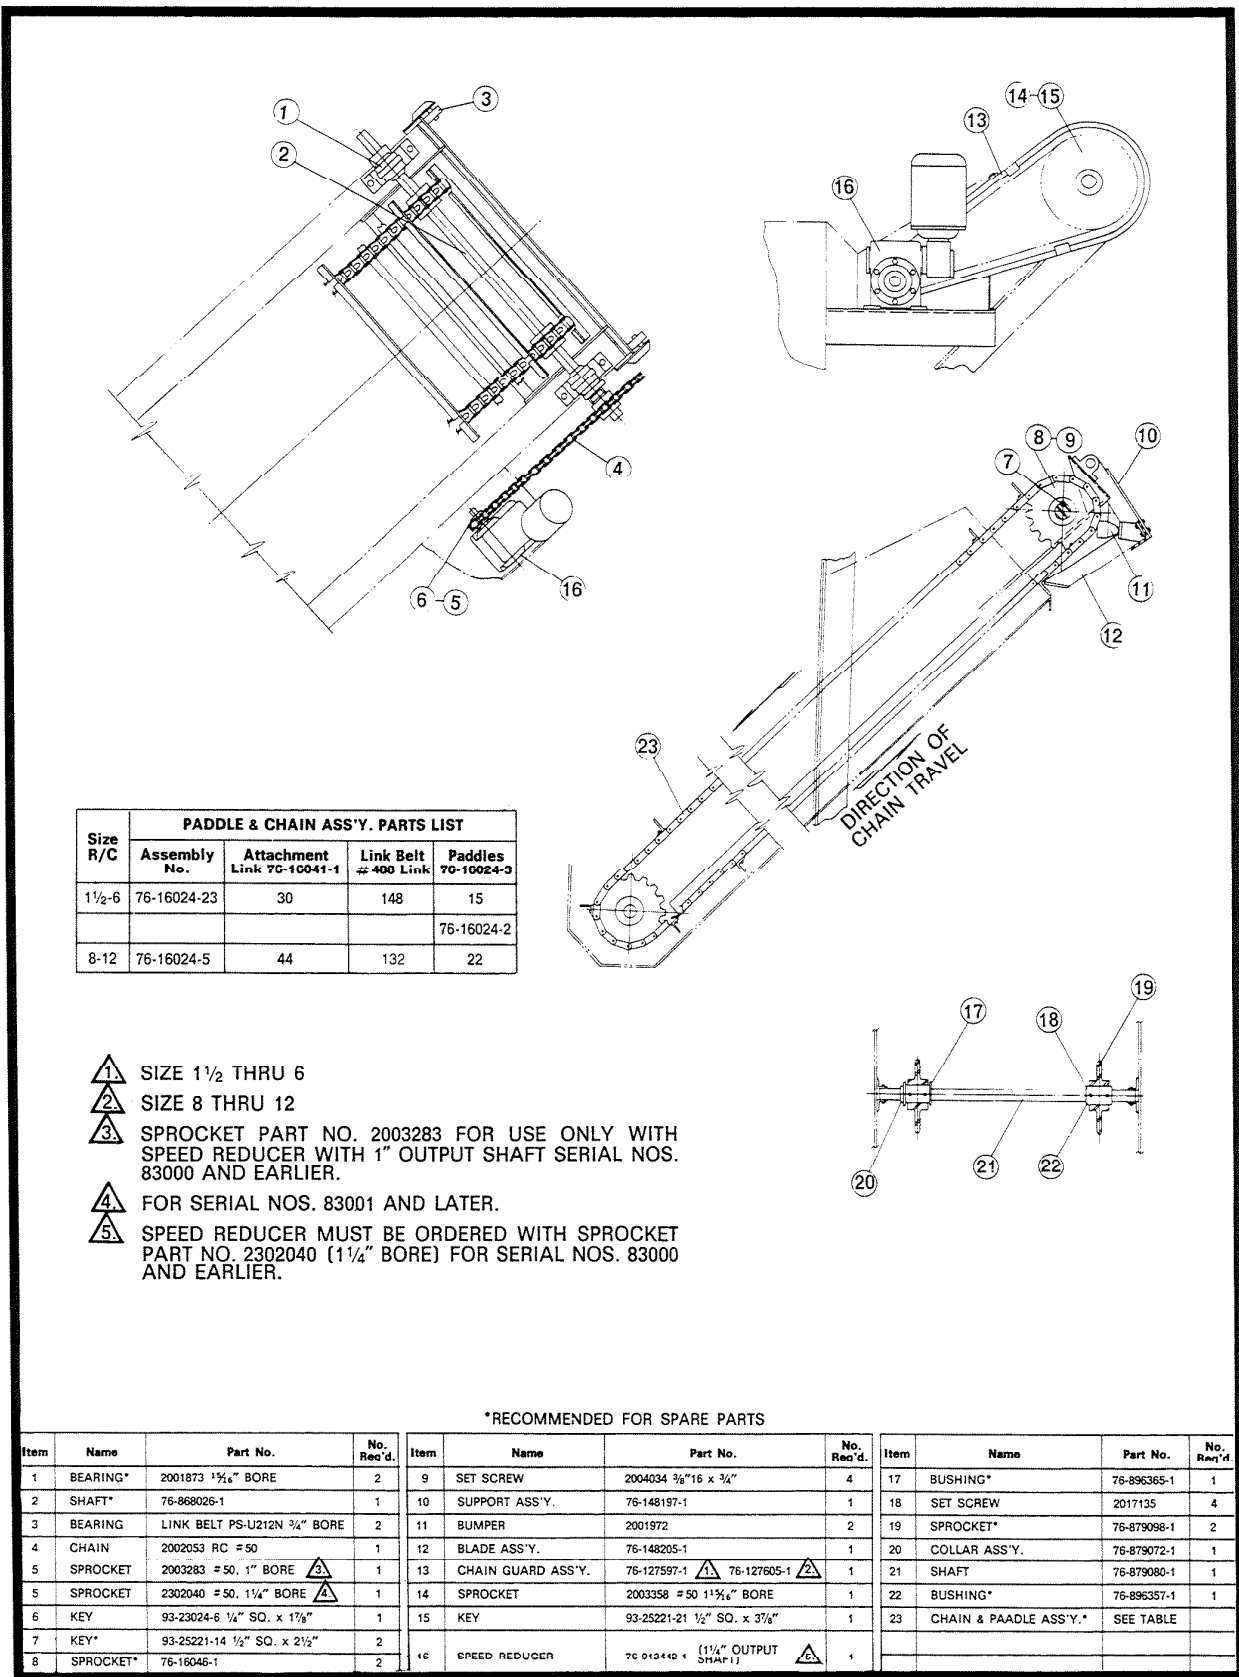
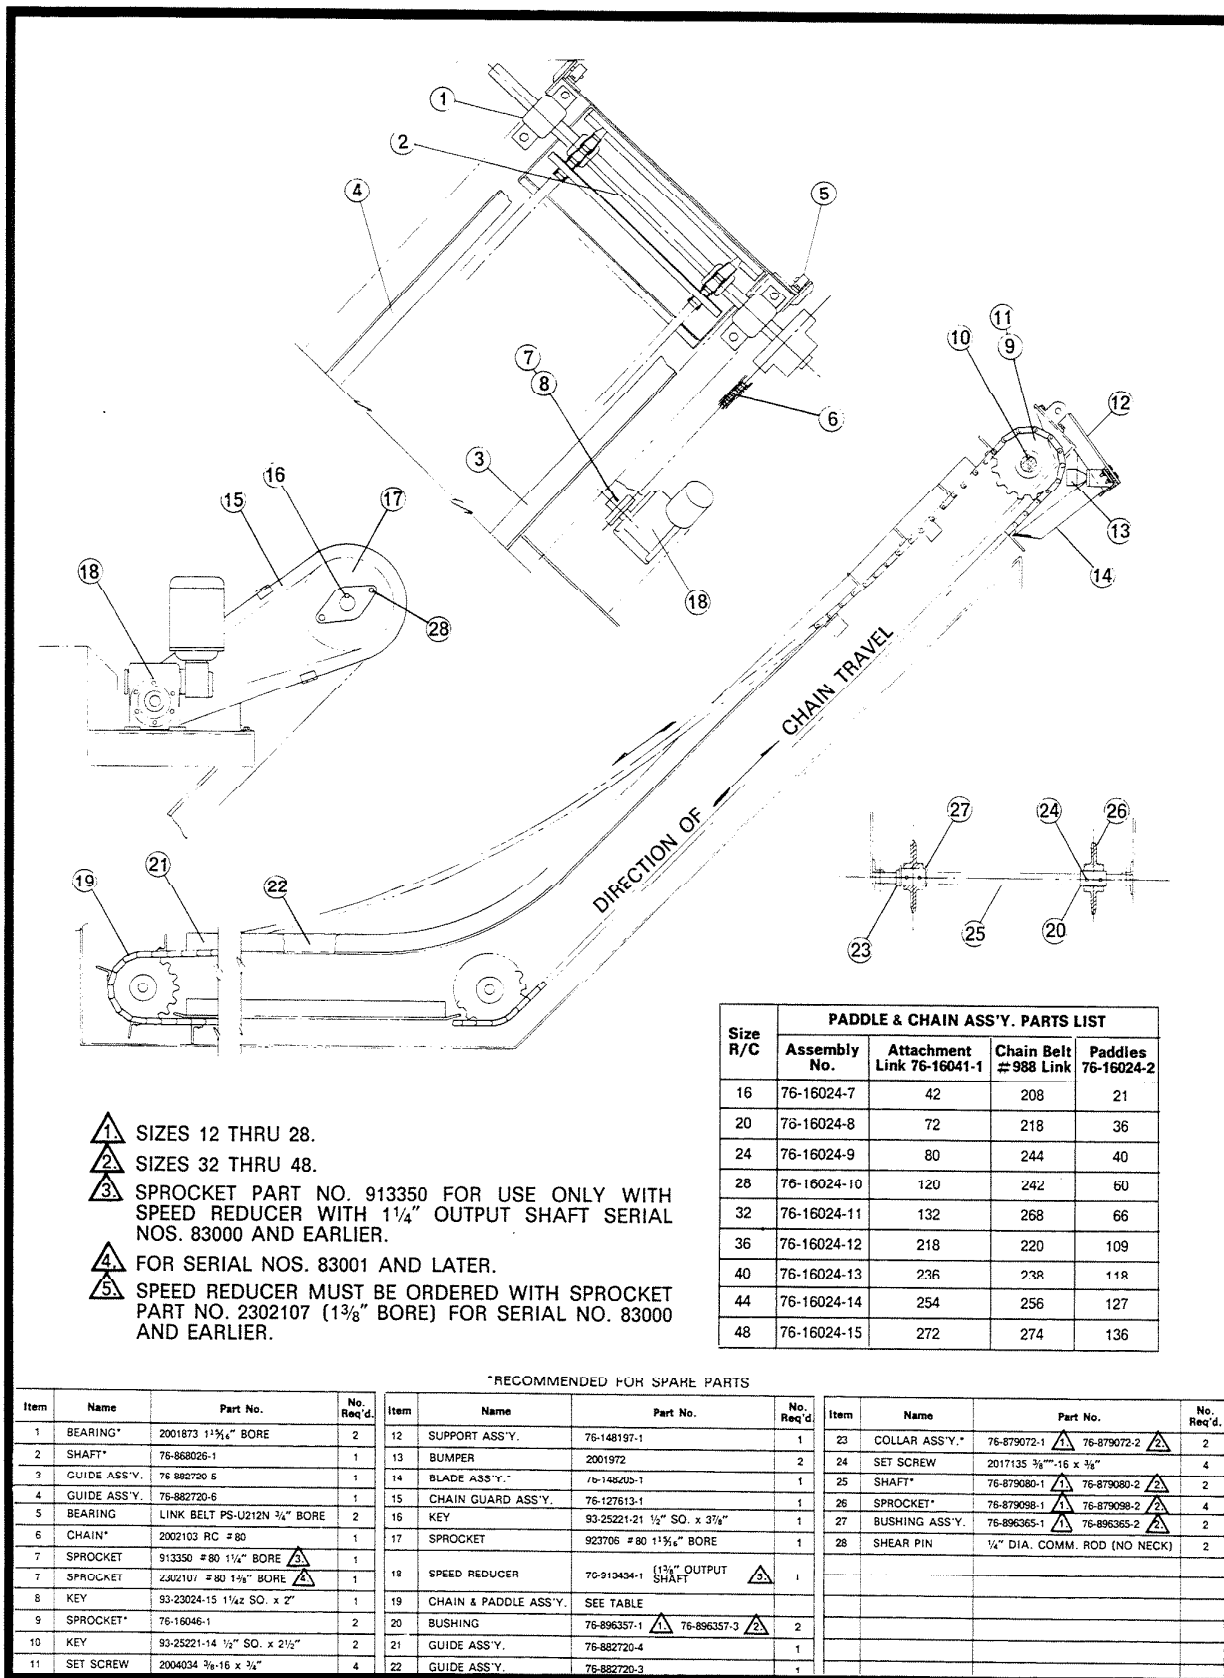

FIG. 9 SLUDGE EJECTOR TYPE "N" MODEL 'B' RotoClone TYPE "W-2"— (PARTS LIST)
FIG. 10 SLUDGE EJECTOR TYPE "N" MODEL "B" RotoClone TYPE "L-2"— (PARTS LIST)
The two basic types of sludge ejectors are the Type "W2" and the Type "L2". The Type "W2" (Figure 9) is used on RotoClones Sizes 1½ thru 12 and has one submerged shaft assembly.
The Type "L2" (Figure 10) is used on RotoClone Sizes 16 thru 48. It has two submerged shaft assemblies.
bolt hole. Each time the RotoClone is drained, check for condition of shaft bushings, and sprockets on the ejector (Figure 9).
- 2) Type "L2" ejector (Size 16 thru 48) chains should be checked periodically or when the unit is drained for cleaning. The ejector return run of chain is suspended to maintain tension and reduce frequency of take-up. If necessary, remove links from each chain before upper run sags enough to interfere with lower run operation (Figure 10).
Check Type "W2" and "L2" shafts, sprockets, and bushings when unit is drained (Figure 9 and 10).
- d. A shear pin protects the chain and paddle assembly. See Figure 10, Item 28, for location and size.
- a. Sludge ejector chains and sprockets are subject to considerable abrasion in many applications. Life will vary from 6 months to more than 3 years. Stocking of ejector parts as indicated on ejector parts list will prevent expensive shutdown. Parts list shown in Figure 9 is for "W2" ejectors on Sizes 1½ thru 12. Figure 10 is parts list for "L2" ejectors on Sizes 16 thru 48.